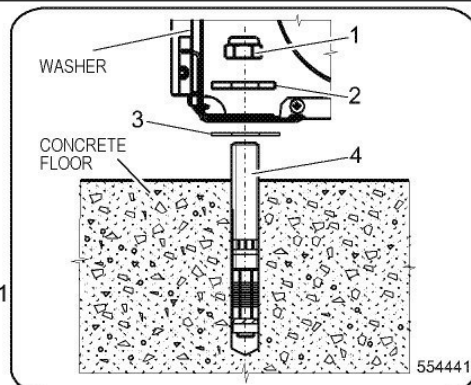

Figure 14 – Rigid-mount machines, Installation on floor
Therefore, M16 anchor bolts - pos.4 – see figure 14 and 15 and washers $\varnothing 60 / \varnothing 16.5 \times 6\text{mm}$ - pos.2 and M16 self locking nuts - pos.1 must be used so that the machine, the steel base (if used) and floor form one integral unit – see figures 14 and 15.
- Check that the machine is installed in a level and stable manner in all its corners. If necessary, level it up by means of stainless or galvanised spacing washers, see figures 14, 15, 16, 17, pos.3 (washers are not supplied with the machine) inserted in between the machine frame and the floor – see figures 16, 17. The dimensions of the spacers must be the same as the dimension of the machine frame in the place where the anchor bolts are located – 80x80mm.